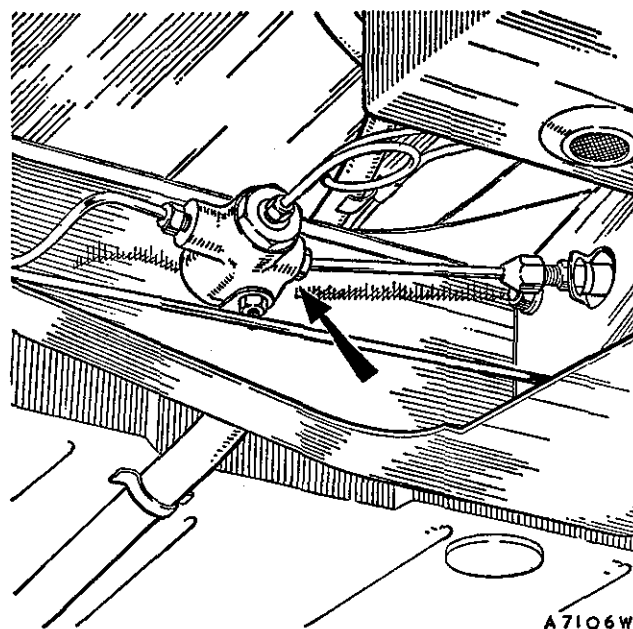

Fig. M.6
- (1) Jack up, remove the wheel.
- (2) Depress the pad retaining spring and withdraw the split pins (Fig. M.6).
- (3) Remove the spring and withdraw the pads from the calliper.
- (4) Thoroughly clean the exposed face of each piston and the recesses in the calliper.